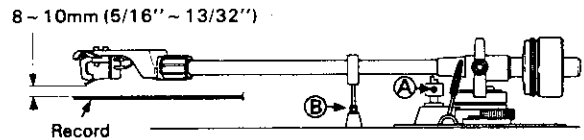

Fig. 14
- Set the cueing lever to UP (▼). Loosen set screw at (A) in Fig. 14, and adjust elevator height so that the stylus is 8~10 mm (5/16"~13/32") above the record surface. Tighten set screw (A).
- The height of the arm rest can be adjusted by first loosening set screw (B). Tighten snugly after adjustment has been made.